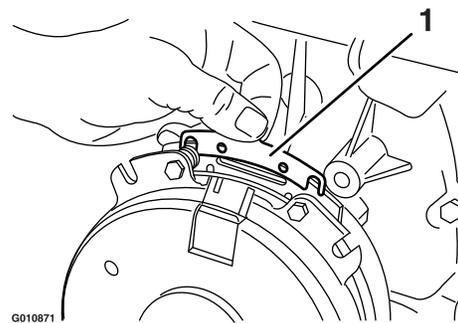

**Figure 64**
- A. Loosen both brake-mounting bolts 1/2 to 1 full turn as shown in Figure 64.